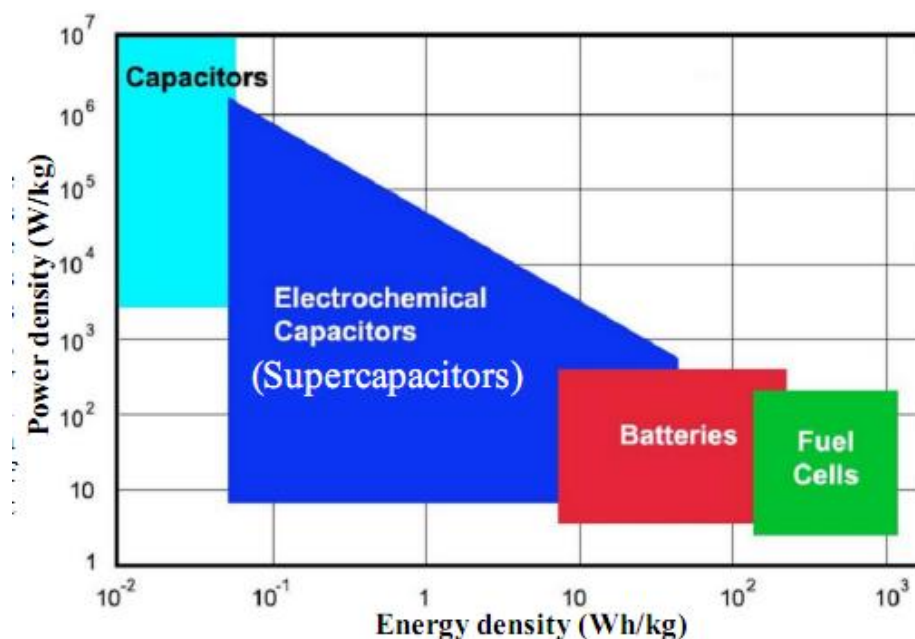

Fig.2. Power density vs. energy density of various energy storage systems.
- The performances of electrochemical capacitors can be compared in the Ragone chart plotting their respective energy and power densities as illustrated in Fig.2 for different electrical energy storage devices.